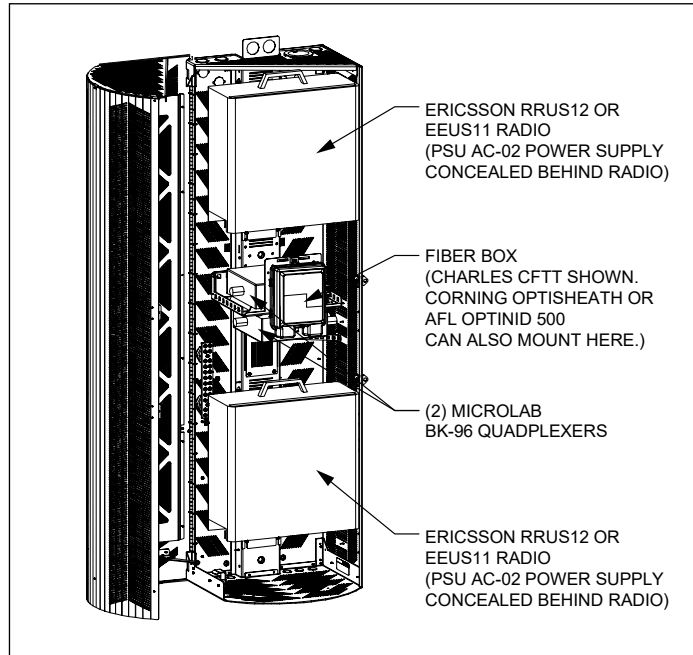

Figure 15 SH60-702018xNE3 with Equipment Installed
Mount equipment in the order listed below. See Figure 15 for a view of the SH60-702018xNE3 with all customer equipment installed.
4. Mount the bracket/power supply assemblies to the SHRD60, in the locations formerly occupied by the 6302 brackets (Figure 15).
5. Mount the third AC-08 to the bottom-right section of the heat shield using customer supplied hardware (Figure 15).
6. Mount the final two AC-08s to the mounting locations on the heat shield (Figure 15)